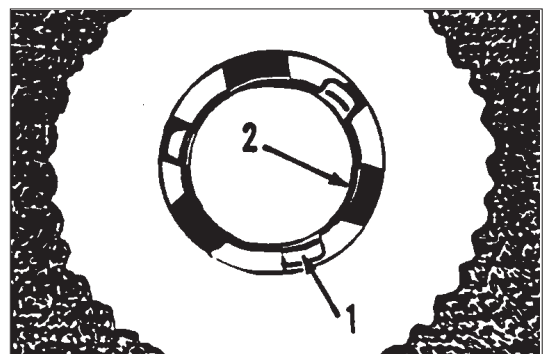

Figure 3
5. Align the lugs (1) on the locking plate into the pad driver adapter openings (2). See figure 3.